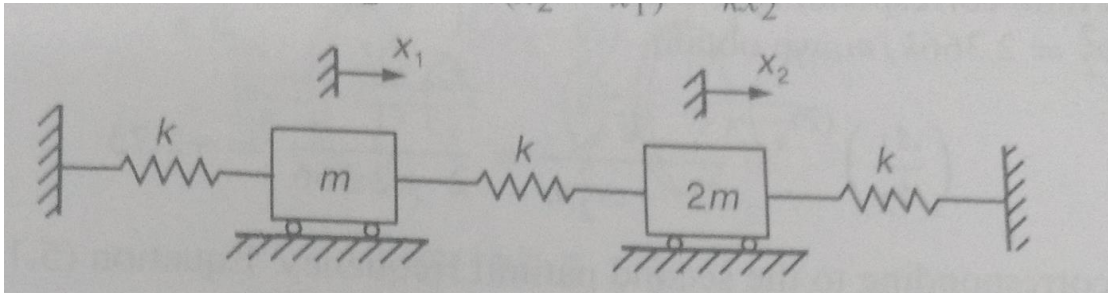

figure.1
7. Find the frequencies of the system shown in fig.1 and show the normal modes.